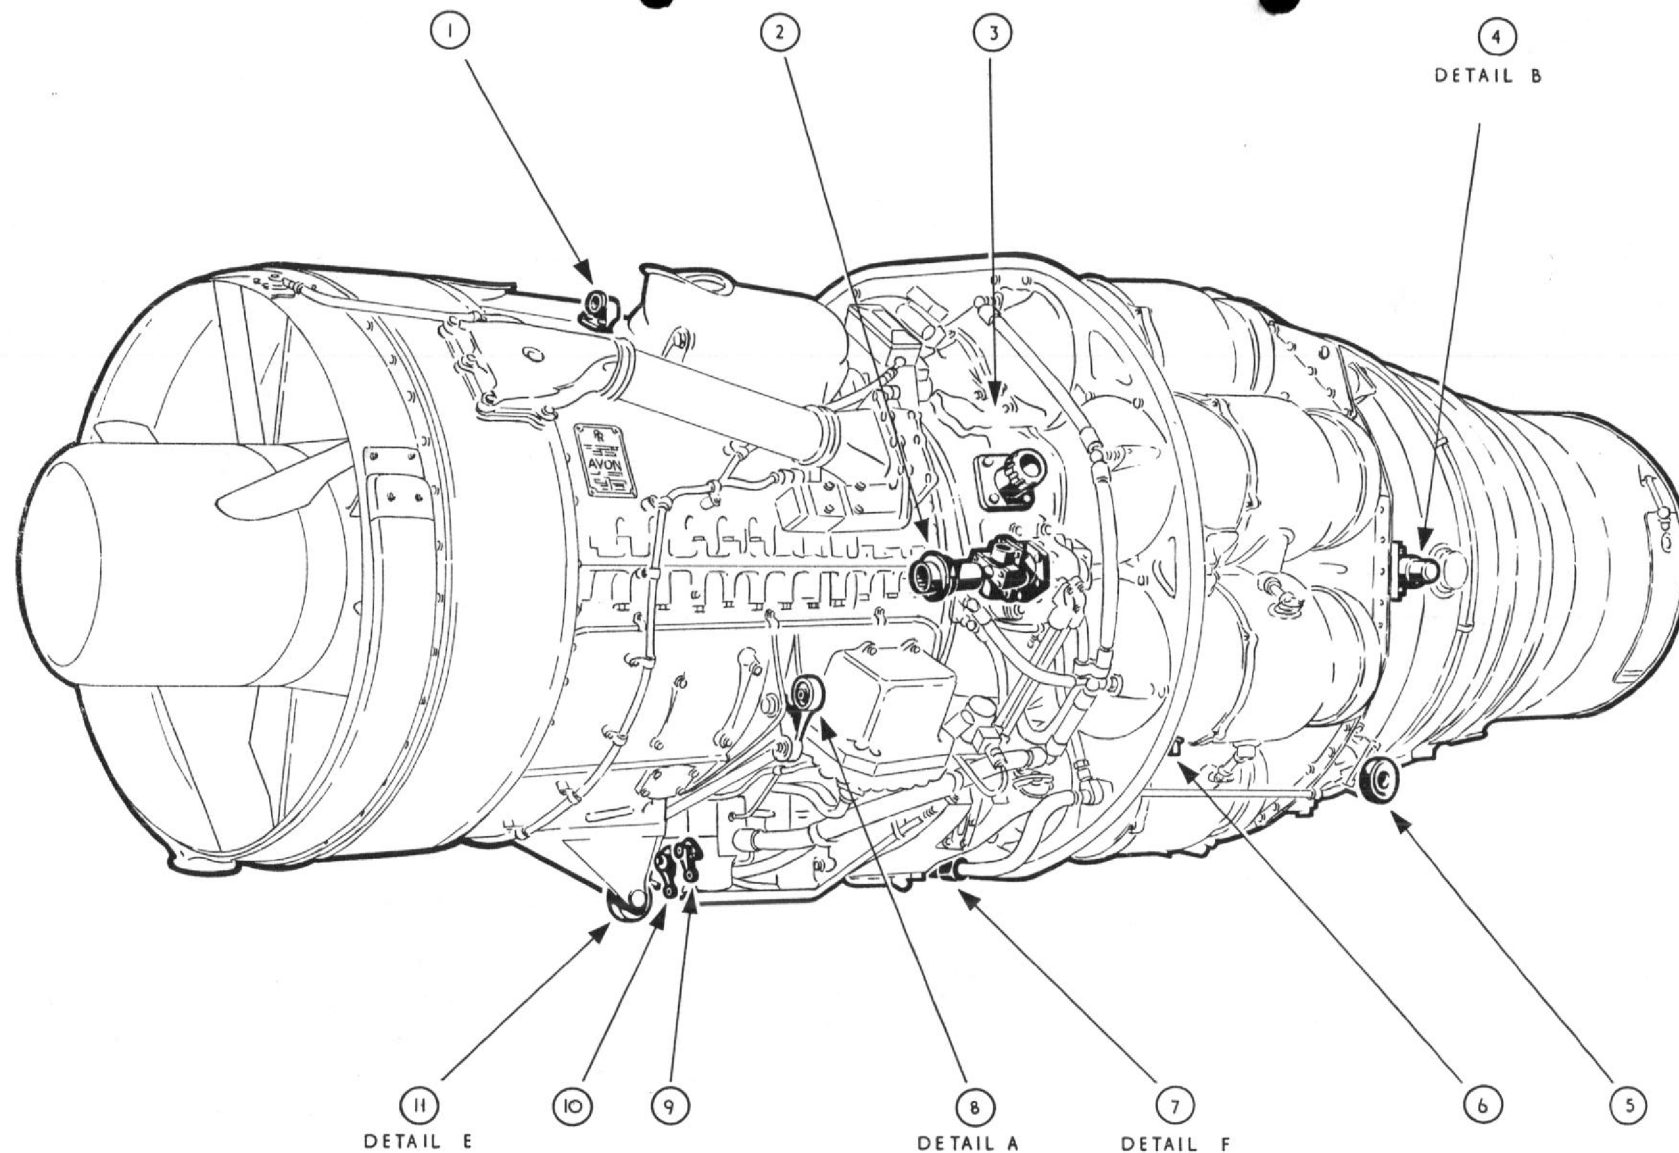
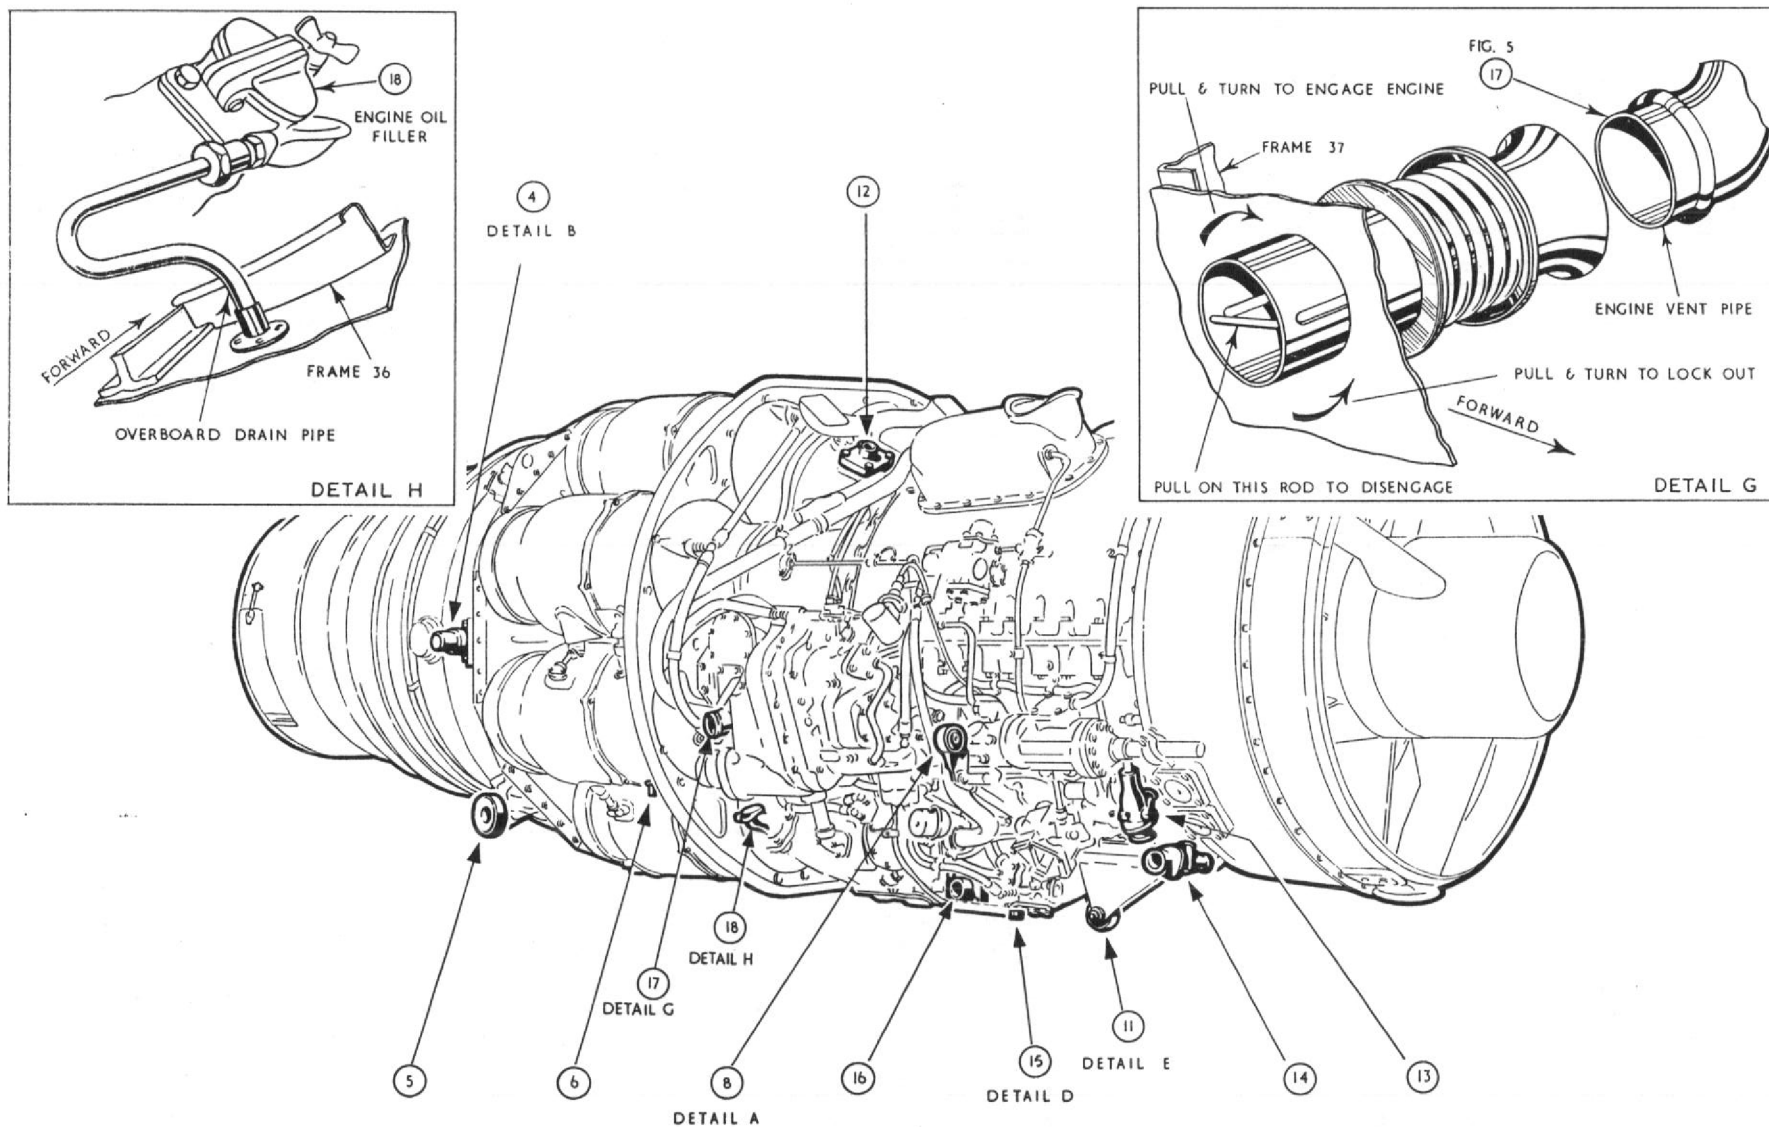
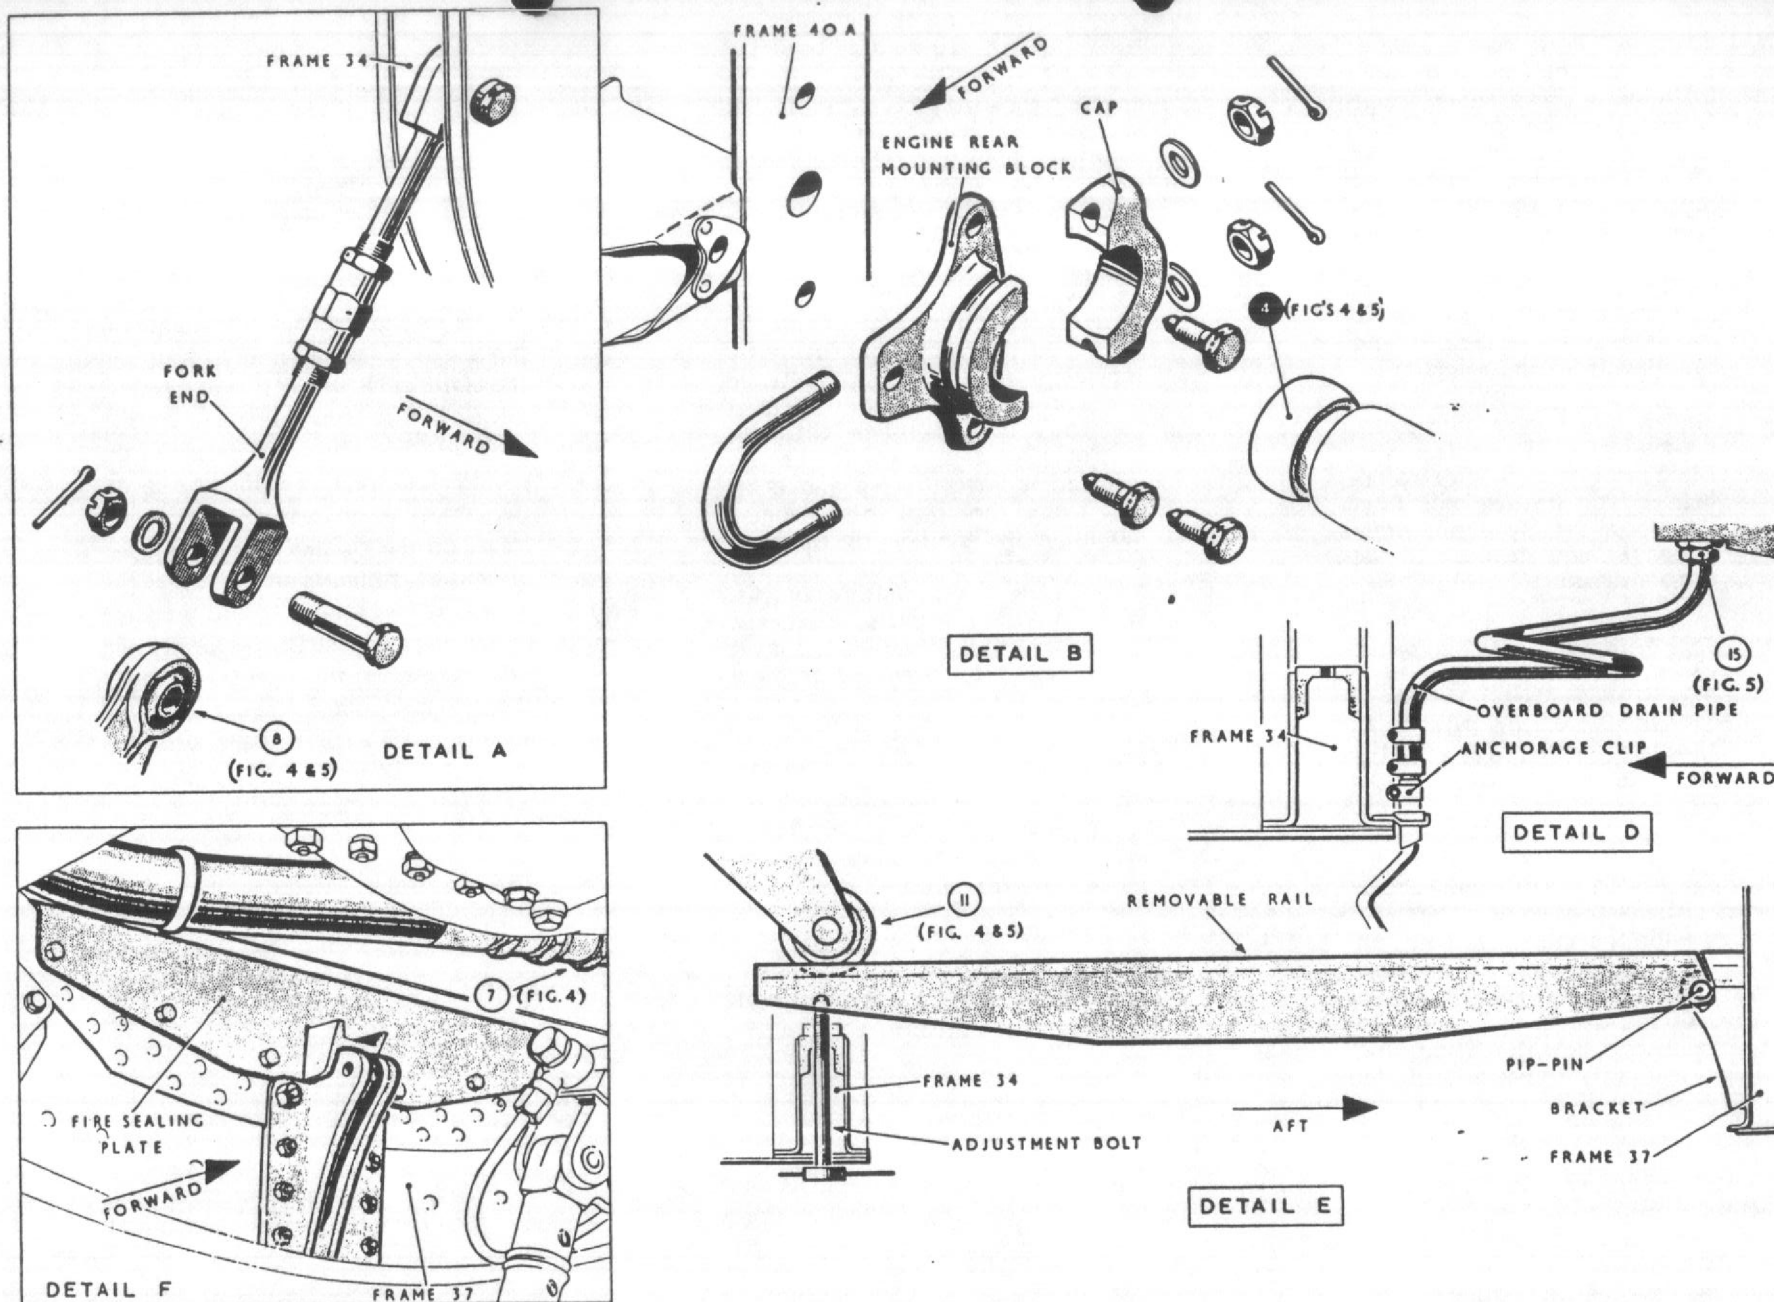

Fig.4. Engine removal (1)
Fig.5 Engine removal (2)
Fig.6 Engine removal (3)
Engine removal (fig. 4, 5 and 6)
(5) Remove the wheelcase breather (item 17, fig. 5).
(6) The following disconnections are given in sequence under their appropriate access door or panel:—
- (b) *Gearbox access door.* Disconnect and stow the cable assemblies C.3 and C.6 (fig. 5 items 13 and 14).
- (c) *Engine access door.* Disconnect and remove the drain pipe from the oil filler (item 18, fig. 5). Disconnect the overboard drain pipe (detail D, fig. 5 and 6) from the engine access door landing aft of frame 34 by removing the anchorage clip from the drain connection and from the spill connection (15) at the bottom of the fuel units and fuel pressure warning light switch. Remove the drain pipe from the aircraft. Disconnect the two connecting rods from the high pressure cock and throttle levers (item 9 and 10, fig. 4) and from their respective Teleflex wrapped box units on frame 34. Disconnect the fire extinguisher hose (detail F, fig. 4 and 6) from the rigid metal pipe (item 7, fig. 4) on the engine. Tuck back the hose behind frame 37. Unscrew the six bolts from the fire sealing plate (detail F, fig. 4 and 6) on the forward face of frame 37. Remove the plate from the aircraft. Unscrew the four nuts and disconnect the fuel inlet
pipe from the fuel units (item 16, fig. 5) and from the connection behind the nearest flexible coupling. Remove the pipe and coupling from the aircraft. Place the removable rail (detail E, fig. 6) between frames 34 and 37 and lock in the bracket on the forward face frame 37 by inserting the pip pin. By screwing up the adjustment bolt through the bottom of frame 34 bring the rail into contact with the engine front roller (11) (detail E, fig. 6).
- (d) *Engine front mounting access panels.* Disconnect the engine front mountings (detail A, fig. 4 and 6) and pull the fork ends flush to frame 34 in order to clear the engine front mounting eyes (item 8, fig. 4) and avoid fouling the engine on removal. Prise back the serrated, spring loaded locking ring and unscrew the shaft retaining nut to break down the gearbox drive shaft (item 2, fig. 4).
Disconnect the high energy igniter plugs (item 6, fig. 4 and 5) from the combustion chambers numbers 3 and 6.
- (f) **Cold air unit access panels.** Disconnect the flexible metallic fuel-tank pressurizing pipe from the engine (*item 3, fig. 4*) and from the non-return valve aft of frame 36. Remove the pipe from the aircraft. Disconnect the flexible air conditioning pipe from the engine (*item 12, fig. 5*) and from the connection behind the flexible coupling. Remove the pipe and coupling from the aircraft.
- (g) **Engine bleed valve duct panel.** Pre-mod H.1193 aircraft. Disconnect the flexible metal-braided gun heating pipe from the elbow on the engine (*item 1, fig. 4*) and tie back to the aircraft structure.
- (7) Having disconnected the above items, align the engine removal trolley with the engine rail lug on the rear face of frame 40A. Screw down the built in jacks at each corner of the trolley and raise it to the required height. Bring the engine rear roller channels of the trolley into alignment with the engine rear rollers (*item 5, fig. 4 and 5*) by turning the lateral adjustment handles on the cross members above the trolley axles. Lock the trolley to frame 40A by inserting the pip pin in the connecting link of the trolley. Dismantle the engine rear mountings (*detail B, fig. 6*) by removing the split pins, slotted nuts and washers
from the 'U' bolts. Withdraw the caps off the 'U' bolts. Pull the engine rearward about six inches in order to free the special bolts securing the rear mounting blocks (*item 4, fig. 4 and 5*). Break the wire locking and unscrew the three special bolts securing the engine rear mounting blocks to frame 40A. Remove the blocks from the aircraft. Transfer the engine from the aircraft to the trolley and secure by replacing the retaining bolts in front of the engine rear rollers at the ends of the roller channels. If the engine is not to be re-installed remove the pin and bearing from the port rear engine mounting and the bearing from the starboard rear engine mounting and retain with the mounting blocks. Withdraw the pip pin to disengage the trolley from frame 40A. Lower the trolley on to its wheels and tow away.